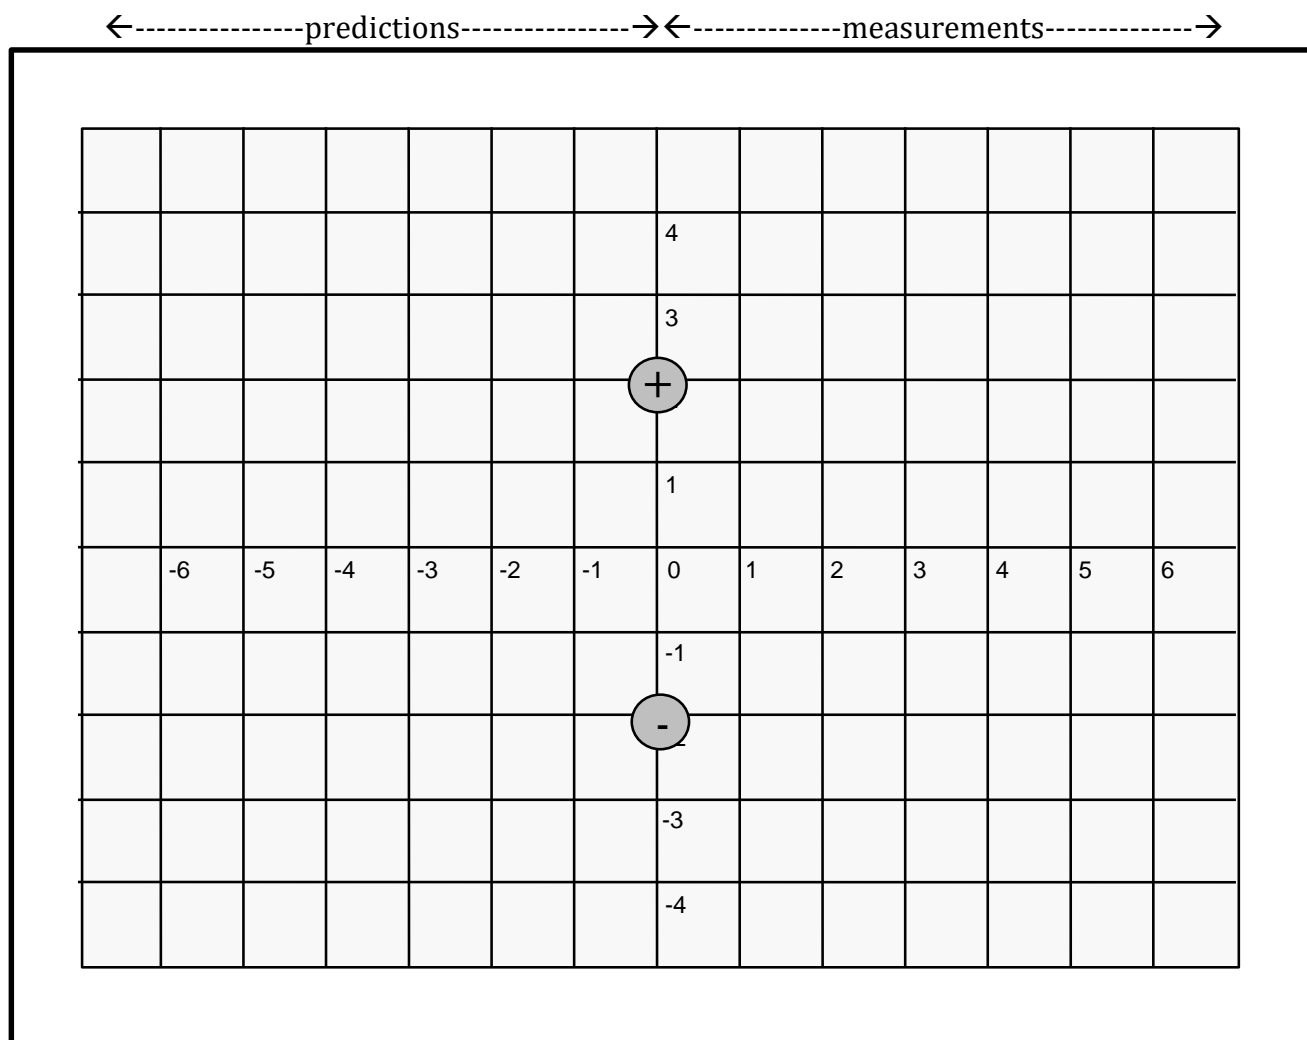

Figure 3. A dipole configuration
Prediction Consider the dipole configuration of Figure 3. On the left half of the diagram, sketch *several* electric field lines you would expect to find. Use a colored pencil and be specific in your drawing. Remember that electric field lines always start and finish at a charge, so do not leave them hanging in space. Also, remember to indicate the direction of the field.
Prediction	Think about the equipotential lines that would give rise to the field lines that you have just drawn. Predict and sketch several equipotential lines on the left half of Figure 3. Use a different colored pencil and be specific in your drawing. Remember that the equipotential lines are perpendicular to the electric field lines.
- Plot two big dots by using silver ink pen at the position as shown in Figure 3. And then use the push pin to connect them to the power supply.
- Use the test probe to plot a series of coordinates which all have the potential difference of 1.0 V with respect to the negative electrode. Record the coordinates directly on the right half of Figure 3. Use the same color as in your prediction above. Connect your points to form a continuous curve. Indicate which lines are predictions and which are the actual results.